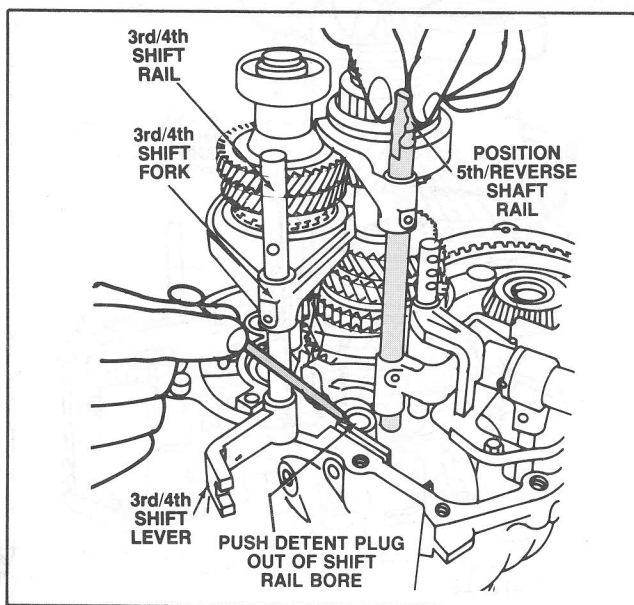

Figure 122 Positioning Interlock Plug
14. Carefully raise and lower the fifth/reverse shift rail in slight amounts while pushing the interlock plug back into its bore. (Figure 122).